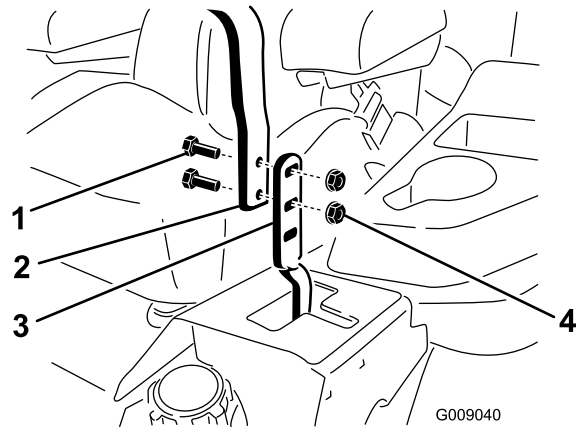

Figure 58
2. Loosen the bolts and flange nuts that attach the handles to the levers (Figure 58).